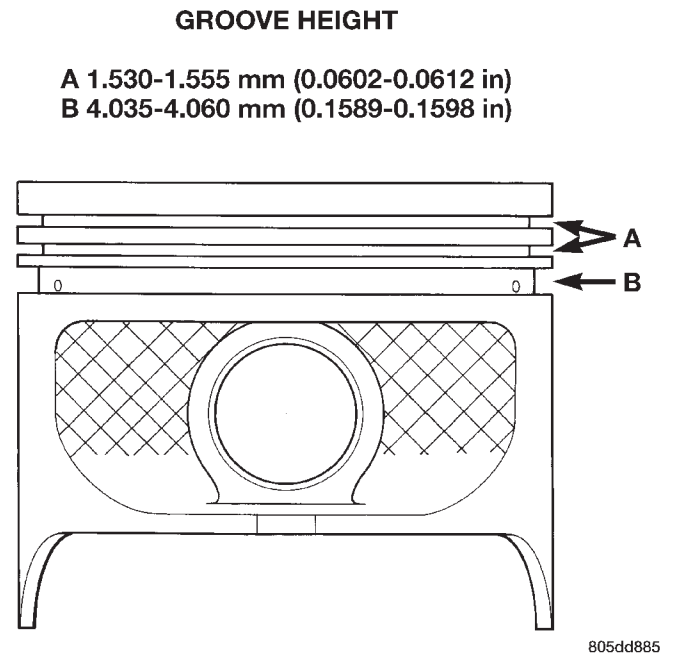
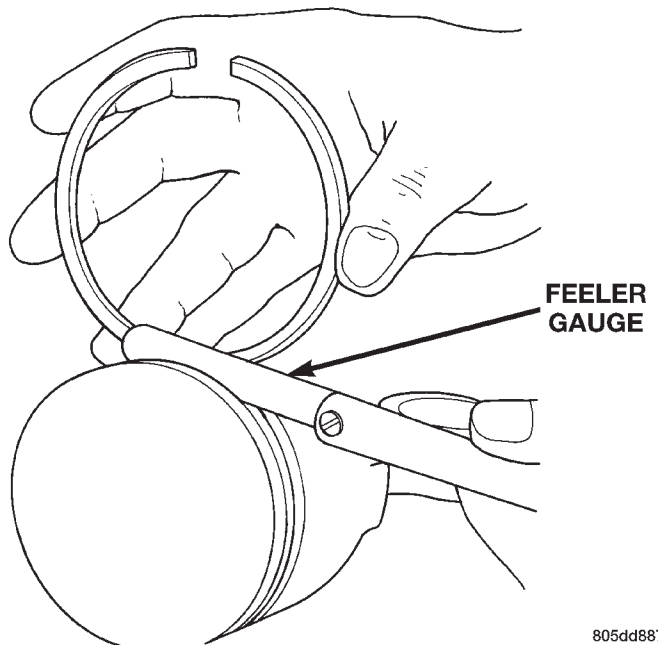

Fig. 7 Piston Dimensions
Fig. 8 Ring Side Clearance Measurement
(1) Carefully clean the carbon from all ring grooves. Oil drain openings in the oil ring groove and pin boss must be clear. DO NOT remove metal from the grooves or lands. This will change ring-to-groove clearances and will damage the ring-to-land seating.
(2) Be sure the piston ring grooves are free of nicks and burrs.
(3) Measure the ring side clearance with a feeler gauge fitted snugly between the ring land and ring (Fig. 7) (Fig. 8). Rotate the ring in the groove. It must move freely around circumference of the groove.